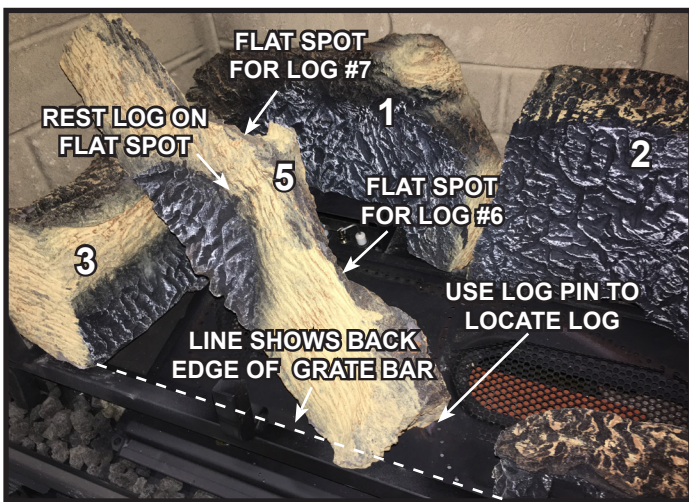

Figure 10. Place Log #5 (Glass Rock not Shown)
**Log #5 (SRV2223-704):** Position Log #5 as shown in Figure 10. See Figure 2 and Figure 7 for additional references. Rest the left end of the log on the flat spot of log #3. Locate the groove located on the right end of the log. Mate the groove with the grate bar. Use the left log pin to positively locate the right end of the log.